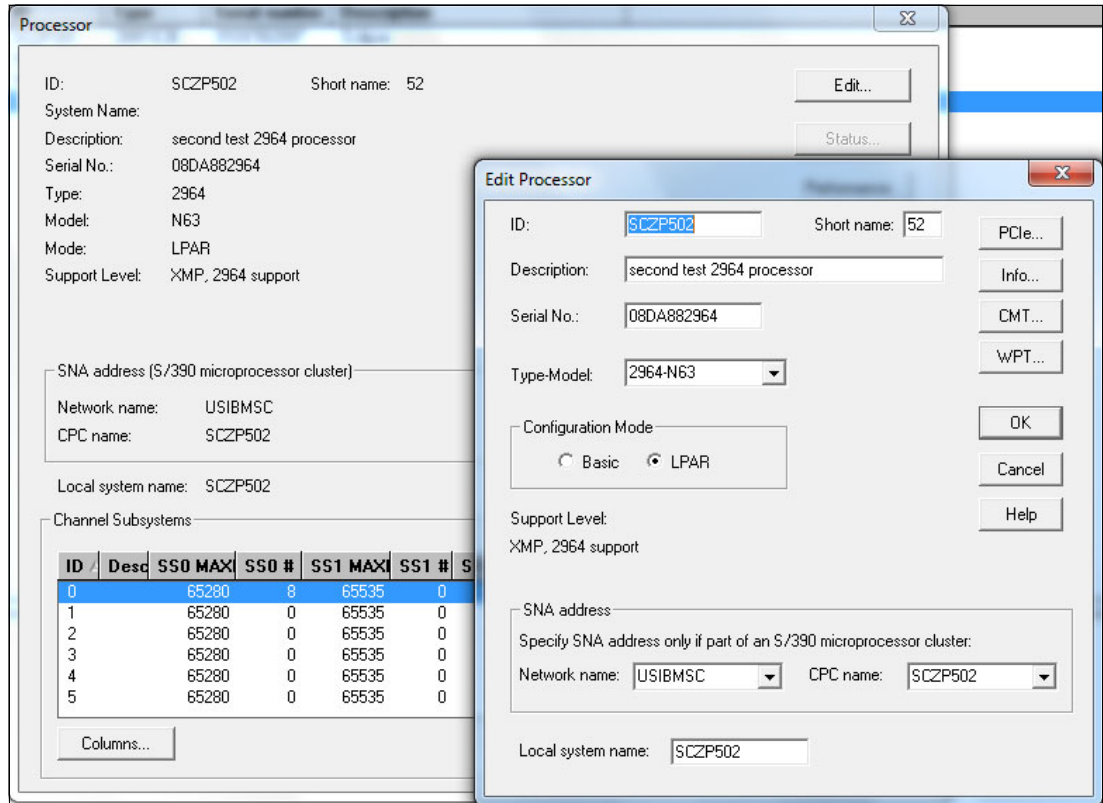

Figure 6-51 HCM - Edit Processor: PCIe functions
3. Click **Edit** → **PCIe** (Figure 6-51 on page 291).